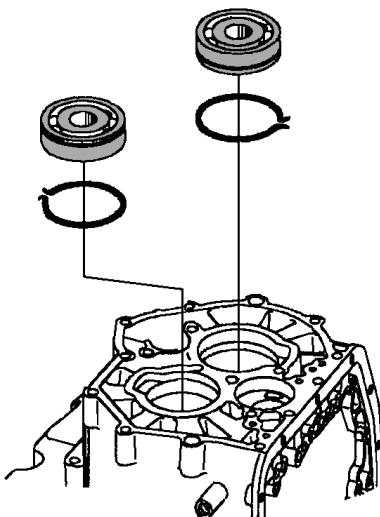

Figure 192
7. Install the input and output shaft case bearings into the case. Using a suitable pair of snap ring pliers, expand the snap ring and slide the bearing into the bearing bores. Snap ring grooves on the bearing should be **UP**on the output shaft bearing and **DOWN**on the input shaft bearing (See Figure 192).